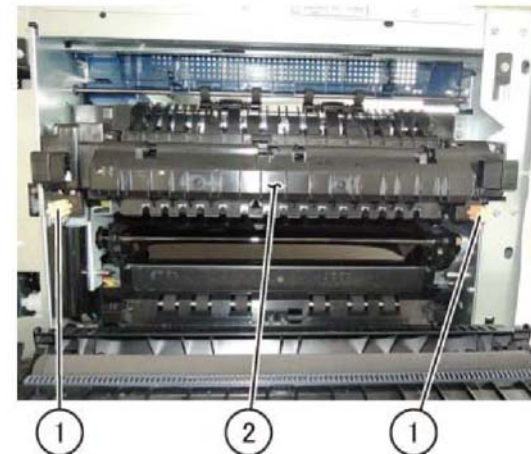

Figure 1 Fuser removal
2. Remove the fuser, **Figure 1**:
- a. Loosen two screws (1).
- b. Remove the fuser (2).